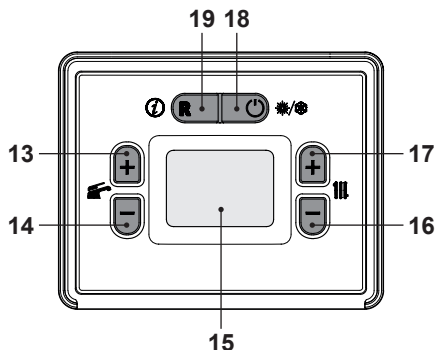

Fig. 8.29
- By using keys 16 or 17 (Fig. 8.29) it is possible to modify the value of parameter A49:
- With the value flashing, pressing key 18 (Fig. 8.29) will confirm the value entered and activate the function.
- From the parameter list, pressing key 18 (Fig. 8.29) will exit the “programming mode.”